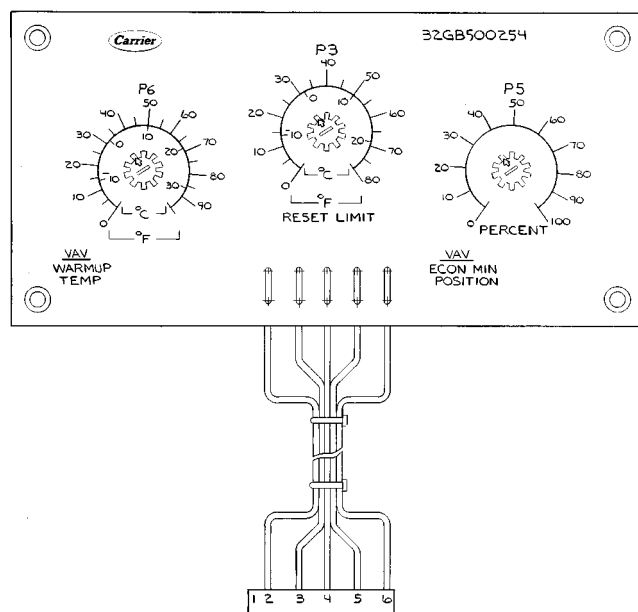

Fig. 31 — Accessory Reset Board
- P3 (Reset Limit — Usable only if accessory reset is used. If accessory reset is used, dip switch 2 must be in the ON position. P3 should be set at the number of degrees of reset selected (difference between design leaving-air temperature and desired reset temperature). The valid range is 0° to 80 F. If potentiometer is out of valid range (less than 0° F or greater than 80 F), control will energize the alarm light, a code of **[84]** will appear on the display if display button is pushed, and reset will be terminated. The reset potentiometer is located on accessory board in unit control box (Fig. 31).
- P5 (Minimum Economizer Position)** — Valid range is 0 to 100% (this is also the range control is programmed to use). Dip switch 3 must be in ON position. If set point is outside valid range, alarm light will be energized, an error code of **[86]** will be on display and economizer outdoor-air dampers will close. This potentiometer is located on accessory reset board (Fig. 31).
[87] will show on display when display button is pushed and control will use a default value of 40 F. This potentiometer is located on the accessory reset board (Fig. 31).